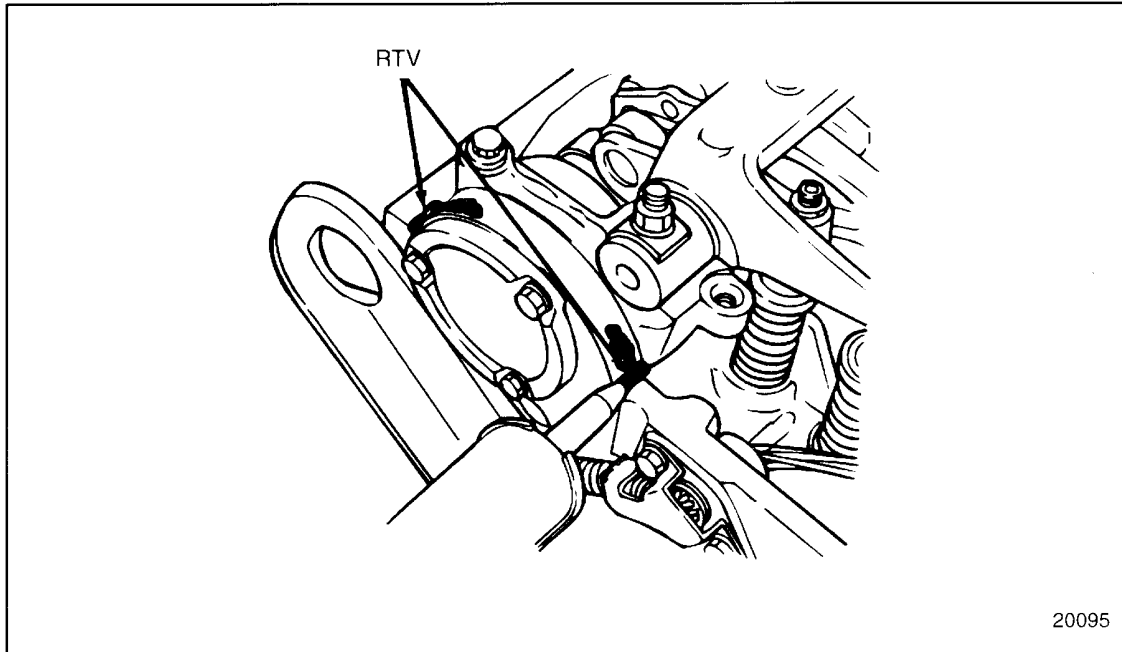

Figure 1-103 RTV Installation
5. Apply a small 3.0 mm (3/16 in.) fillet of RTV in the corners formed by the rear camshaft cap and the head, where the cover seal contacts. Repeat this procedure for the corners formed by the front camshaft cap and the head. See Figure 1-103.